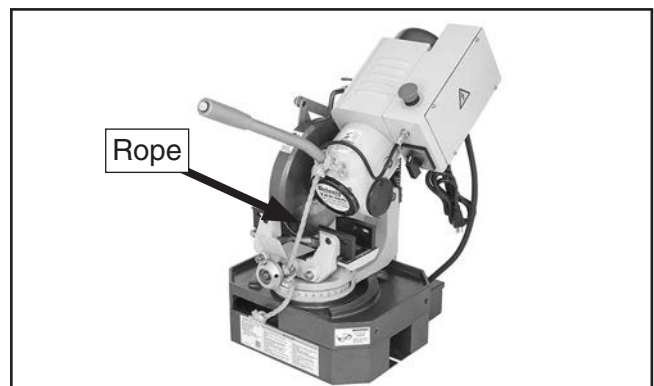

Figure 9. Headstock secured in downward position.
3. Secure saw headstock in downward position with a strap or rope (see **Figure 9**).